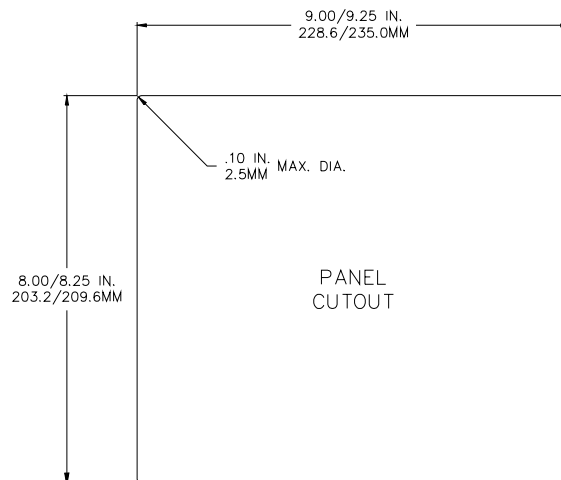

Figure 2-5: Model 560/562 Panel Mount Cut Out
1. Make a cut out in the panel using the dimensions shown in Figure 2-5.